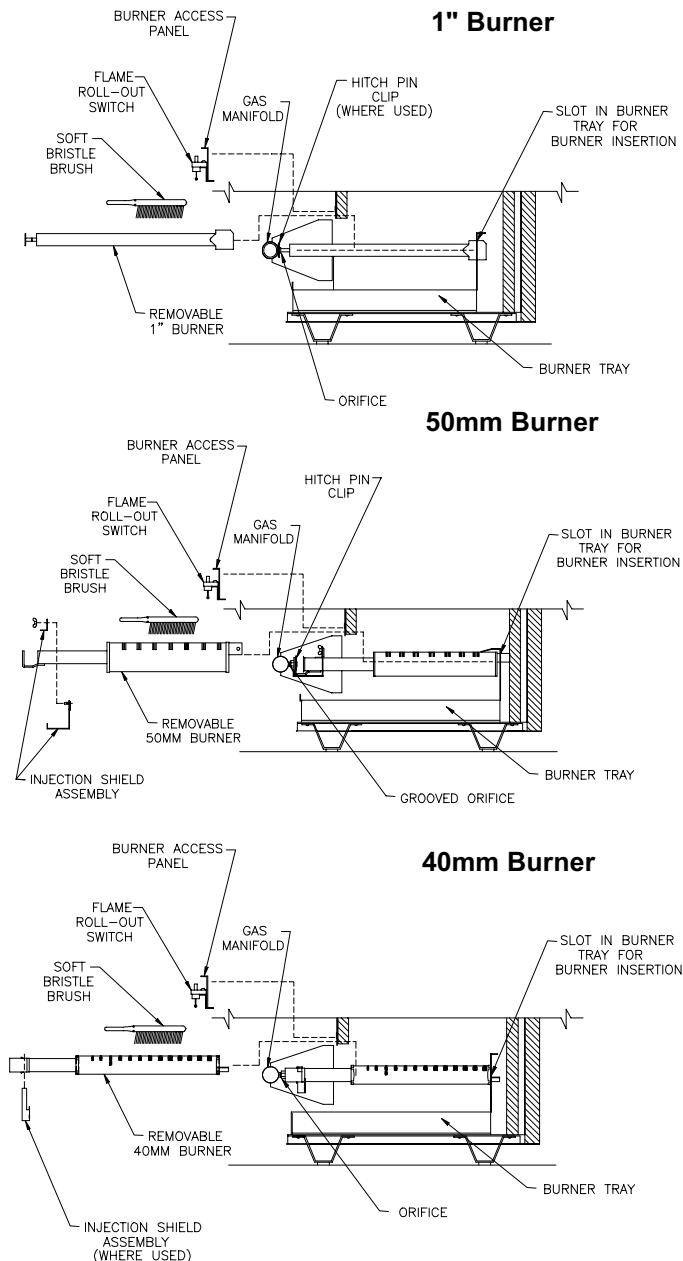

Figure 30: Burner Cleaning and Installation
4. 40mm and 50 mm burners only. Remove injection shield assembly, where used. (See Figure 30).
10. Brush top of burners with a soft bristle brush, see Fig. 30. Vacuum burners. Check orifices to see that drilled passageways are free of lint or dirt.
C. INSTALL BURNERS by reversing procedure used to remove burners. Make sure burner with pilot assembly is in same location as original installation - see Table 5 Check burners to see that they are located properly in slot at rear of burner tray, see Fig. 30. Reinstall injection shield assembly (40mm and 50mm burners only, where used) and burner access panel. Reconnect flame roll-out switch wires, pilot gas supply, thermocouple lead or pilot lead.